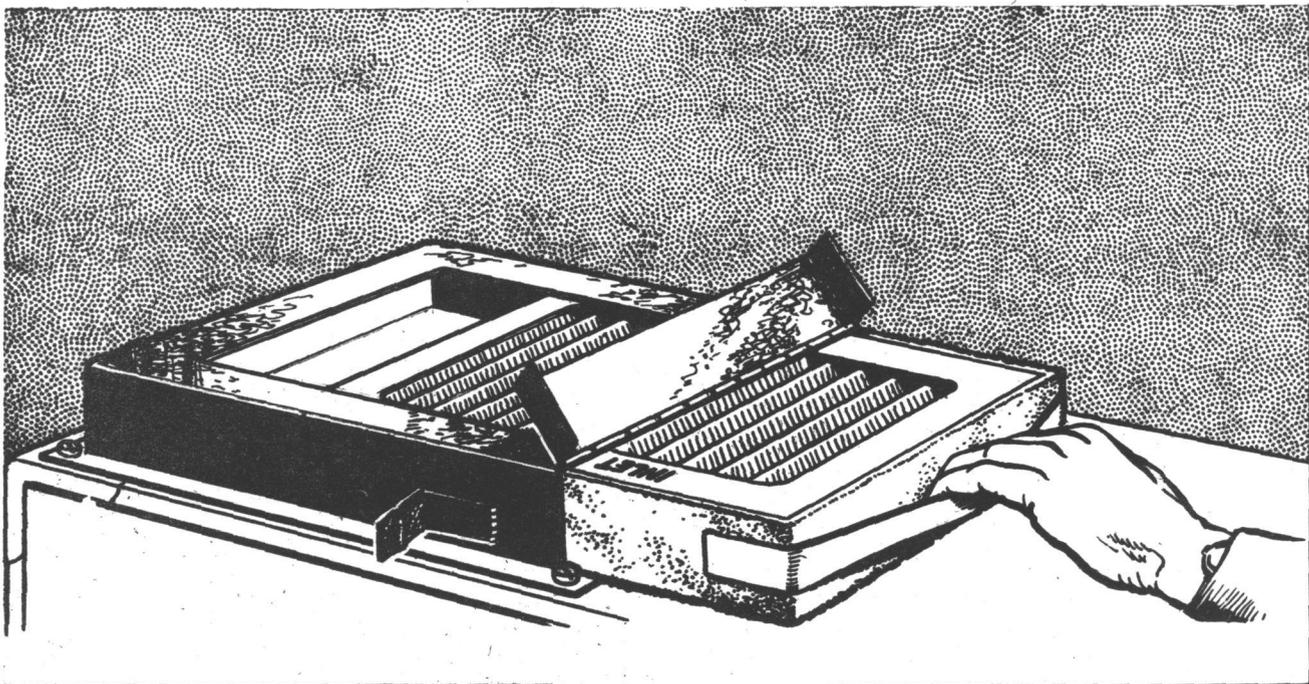

FIG.4 REMOVING AIR FILTER
- (10) Remove air filter (see Fig. 4). Clean filter daily by knocking it out on its front edge.
As already explained, the amplifier must be tested every time before it is used. Table I (page 12) shows how to test it. The tests should be done DAILY, even though the amplifier is not going to be used. They MUST be done in the order given. For instance, test 5 will not work unless you have just done 4. The tests must be done AFTER the daily tests on the Wireless Set No. 19 have been carried out and with the set switched on. The air filter must be cleaned daily (see Fig. 4).